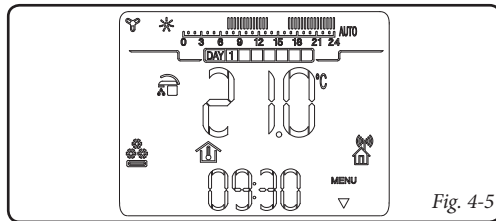

Fig. 4-5
- Cooling mode** (❄️). In cooling mode the boiler is enabled for the production of DHW and to control a chiller (only for models set-up) for cooling rooms. In “cooling” mode, the CAR^{V2} can work in automatic or manual mode. For the description of operation see chapter 7. The display shows the day and current time, the room temperature and the hour bar with the daily programming of the cooling timer together with the relative symbols (Fig. 4-5).